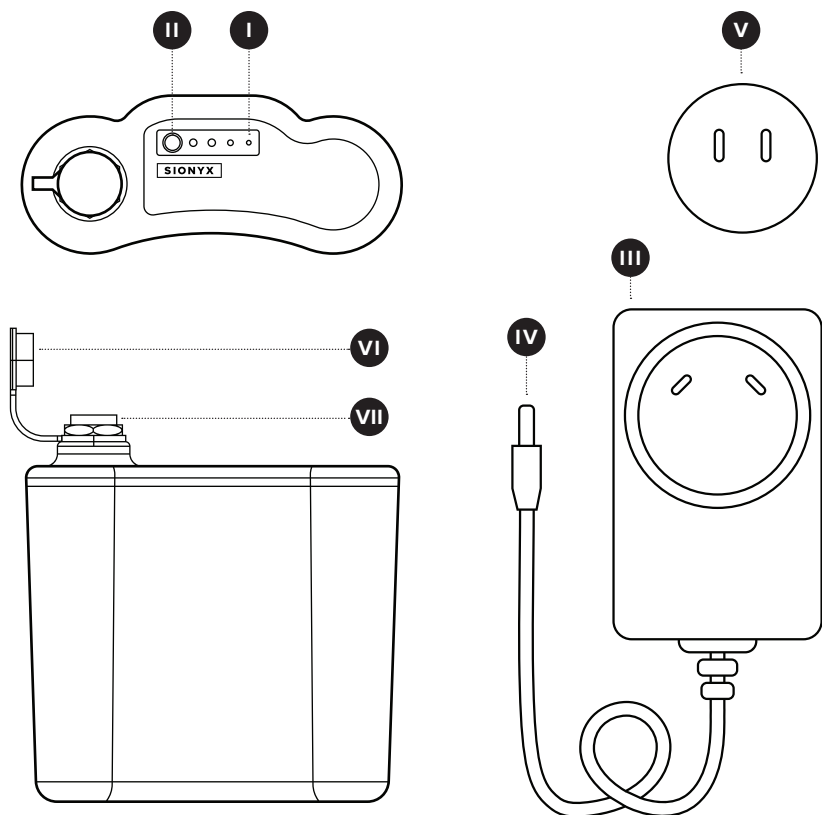

FIGURE 2:
1. Refer to **FIGURE 2**. Press the **BATTERY LEVEL BUTTON** to determine the battery's level of charge. You may need to press the **BATTERY LEVEL BUTTON** firmly - use a narrow, blunt object if required. A fully charged battery will display 4 green lights in the **BATTERY LEVEL INDICATOR**.
1. Refer to **FIGURE 2**. Ensure your **BATTERY** is fully charged before attempting to connect to your device.